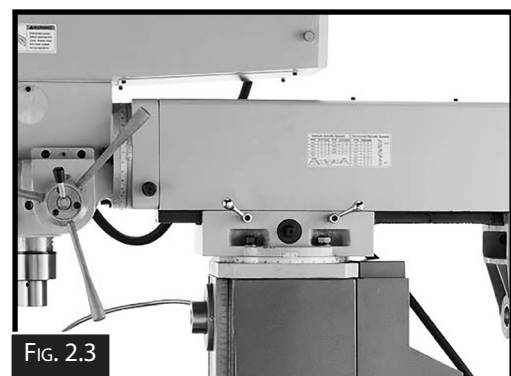

FIG. 2.3
2. Tighten the four turret lock bolts (two on each side of ram, as shown in Fig.2.3). This will help keep the ram from unexpectedly moving from the force of the lifting straps.